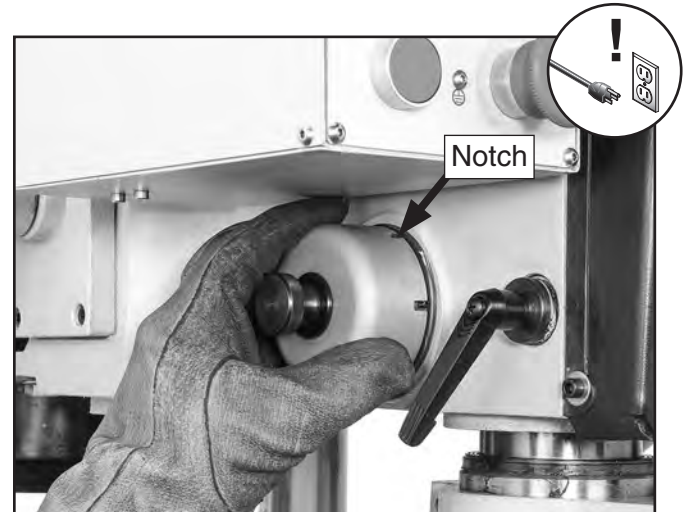

Figure 43. Adjusting spring tension by rotating spring cover to engage next notch with roll pin.
4. Wearing gloves, pull spring cover (see **Figure 43**) out enough so notches just clear roll pin. HOLD SPRING COVER TIGHTLY during this step, or force of spring will cause cover to spin out of your hands.
5. Rotate cover counterclockwise to increase tension, then push cover back in to engage roll pin with one of the notches, as shown in **Figure 43**.